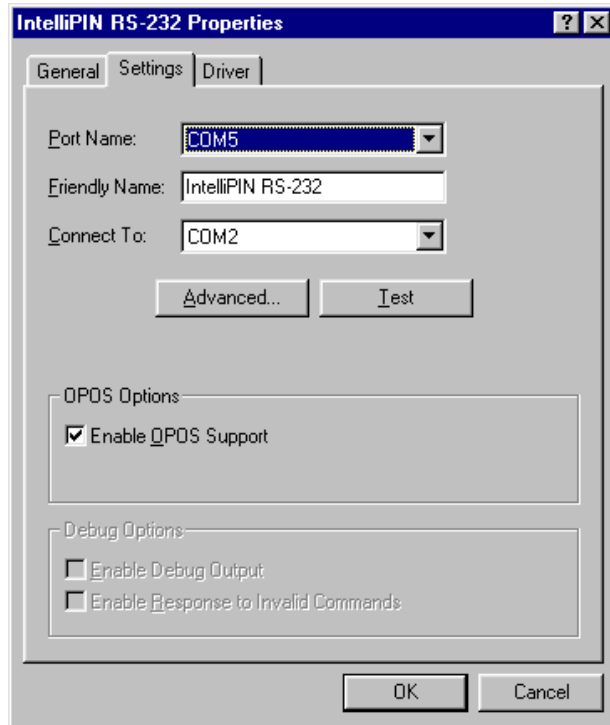

Figure A-1. Properties Settings, Windows 95/98/ME
1. Right-click on **My Computer** on the desktop or open the Control Panel and double click on the **System** icon then select **Properties**. See Figure A-1.